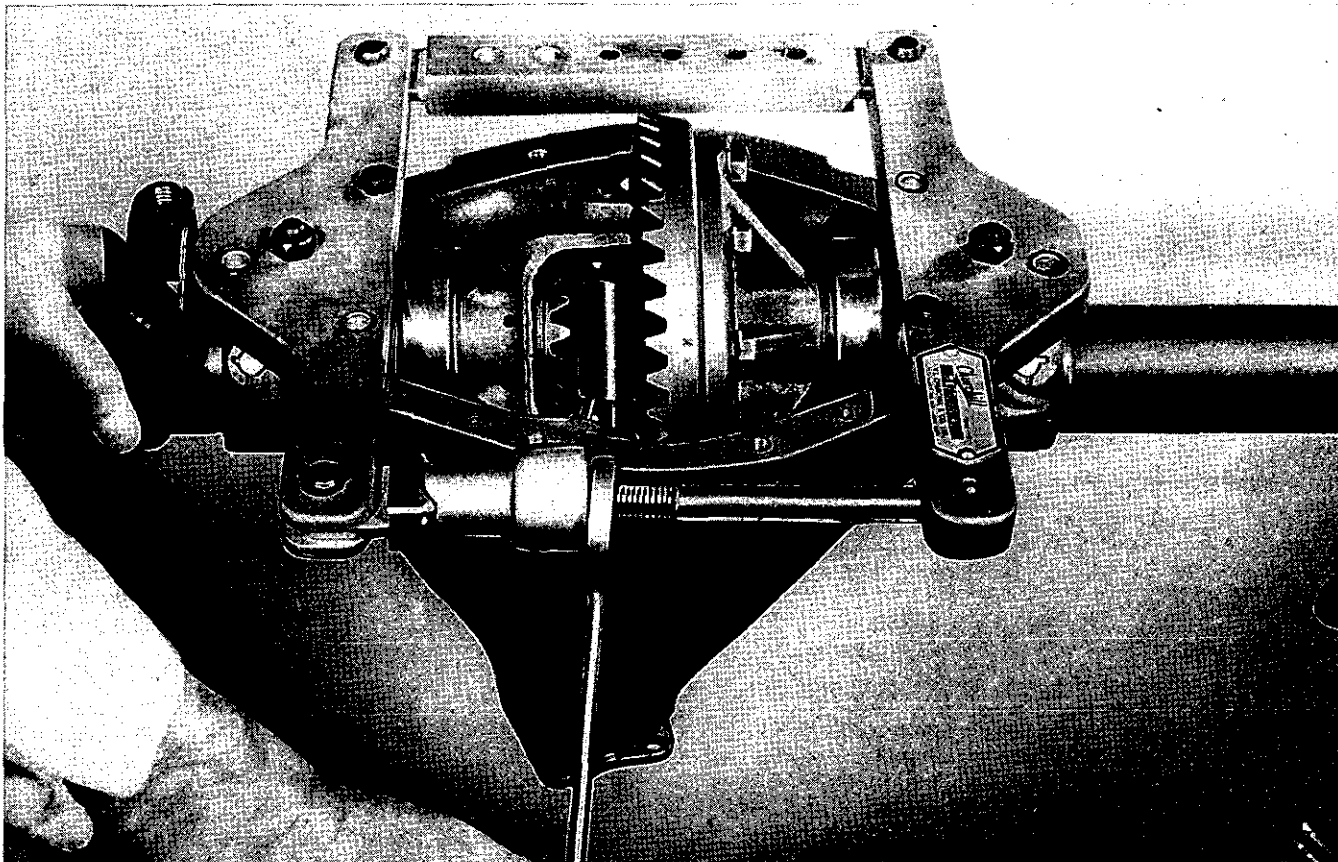

Fig. 8. Casing Spreader in Use, Tool No. SK/.S939.
9. Apply axle casing spreader as shown in Fig. 8 and prize differential assembly out of axle, taking steps to protect the machined face against which the cover fits. "Spreading" should be limited to that required to just free the assembly in the casing.